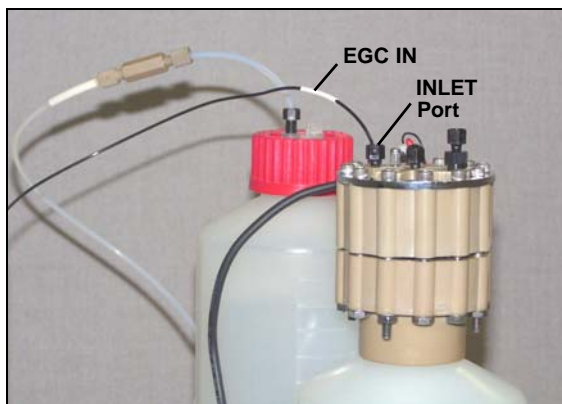

Figure 39. EGC Inlet Port Connections
5. Connect **EGC IN** to the **EGC INLET** port (see Figure 39).